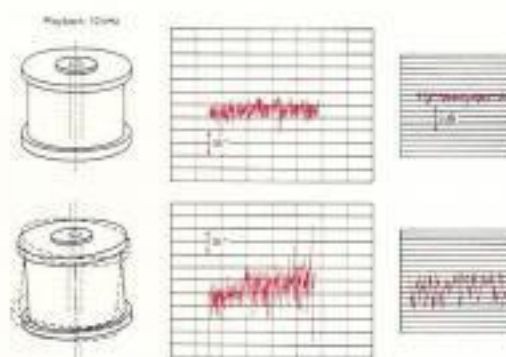

Fig. 2: Influence of various types of rollers on constancy of phases and level of output.
slope (B) to continue longer and, in effect, "boosts" fewer high frequencies (FIG. 2); and less high frequency boost means less tape hiss gets boosted at the same time. The major audible difference between cassette tapes is not in high or normal bias, but in 70 or 120- μ s equalization: the 70- μ s EQ will always provide about 4.5 dB less tape hiss. Chromium dioxide, chrome-equivalent, ferrichrome, and metal particle tapes all use 70- μ s playback EQ.
the heads (Fig. 2). The guide itself should be perfectly concentric. Its shaft should have a slight bulge to it with the widest part exactly in the middle of the tape path. The molding technique must be such that no seam or burr exists anywhere on the guide. The ends of the guide have flanges with very sharp delineation for the best tape contact. The roller is usually low-friction Delrin®-type plastic.